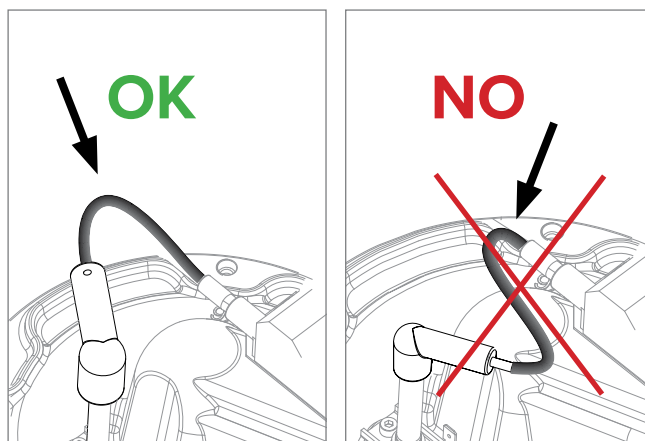

Fig. 10 - Igniter Cable Installation
11. Reference *Fig. 8 to Fig. 10* for installation and correct position.
12. Connect the power supply connector (3-wire connector) to the spark generator socket (D). Make sure that the brown wire is to the left.